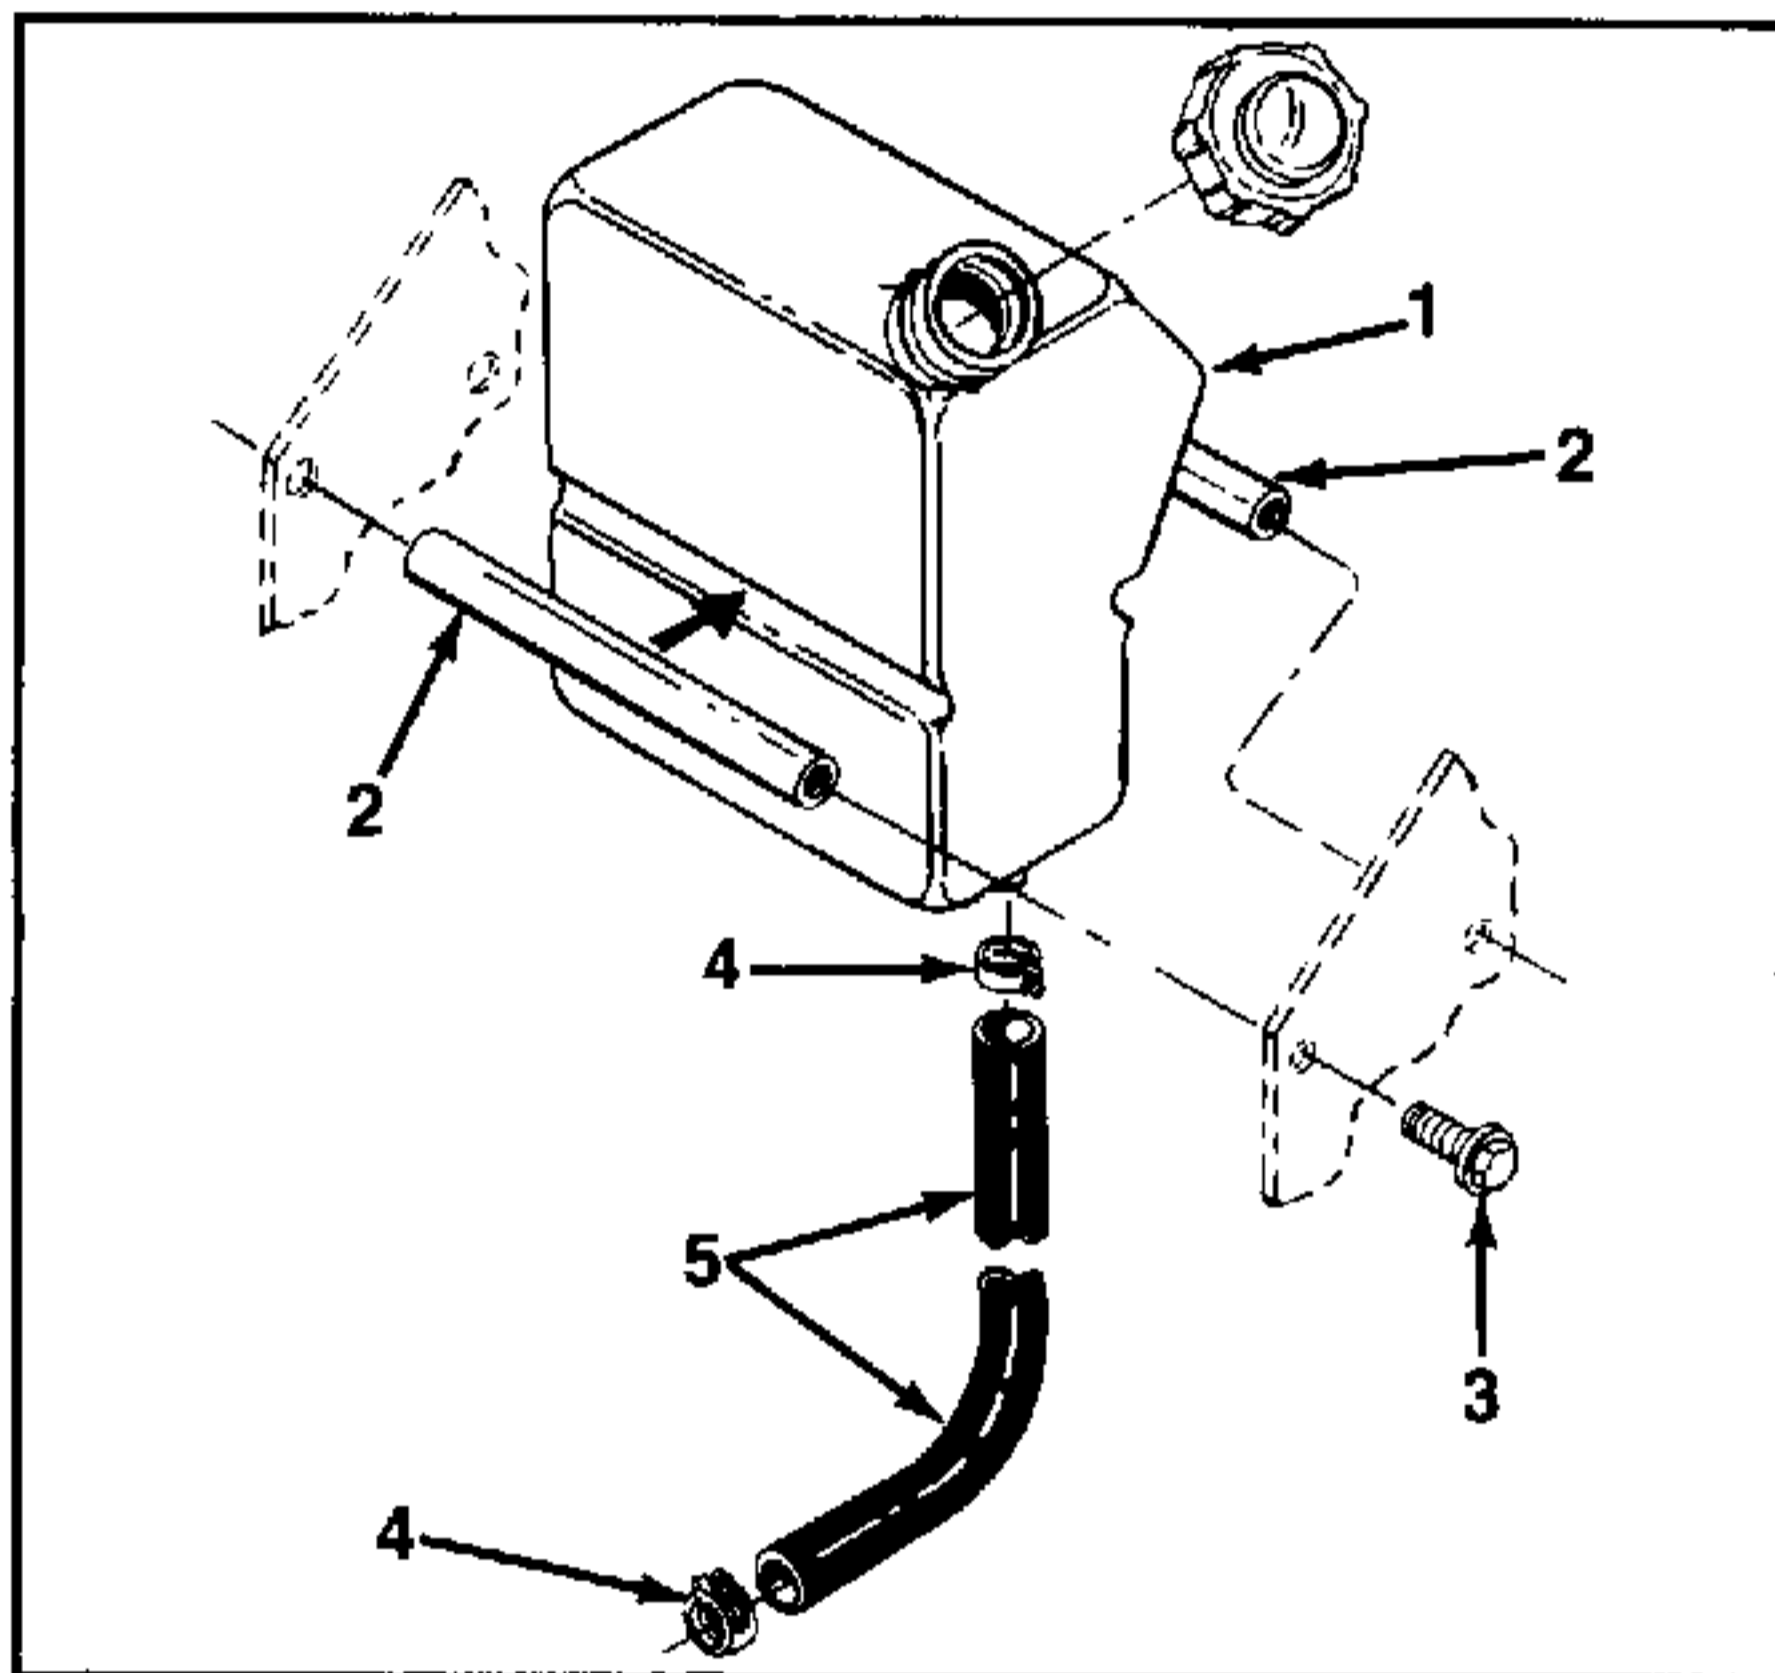

FIGURE 2.
3. Disconnect the fuel line, either at the fuel tank or fuel filter. See figure 2.